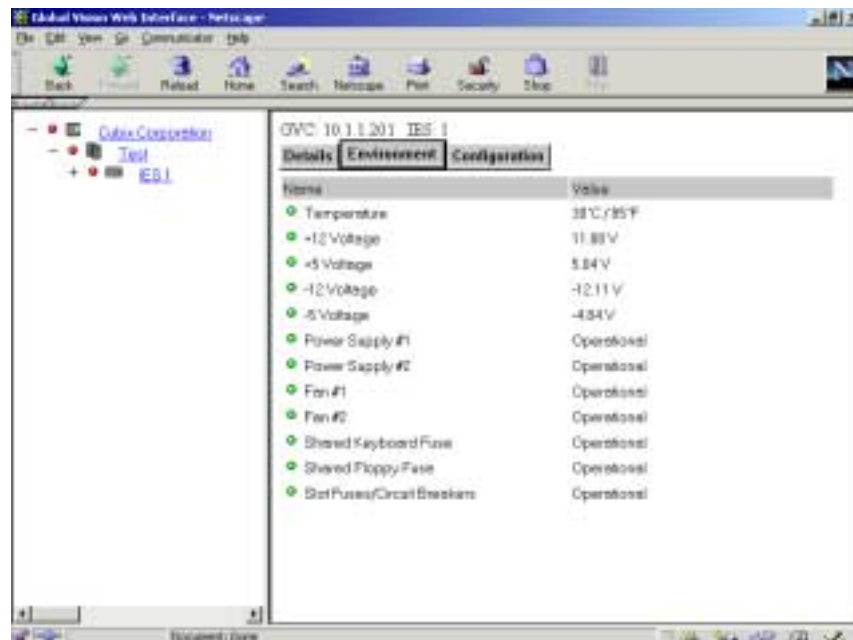

Figure 141 – GV Web, IES level – Environment tab
- ◆ **Environment** will provide a detailed list of environmental conditions. See Figure 141.